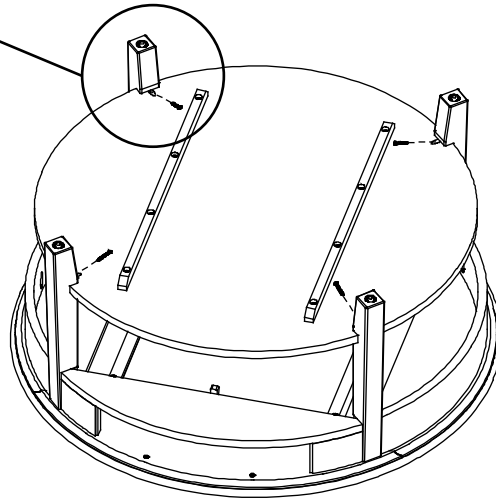

Fig. 7
7. Using the pocket holes as guides, secure the Shelf (C) to the Legs (B) with four #8 x 1-1/4" Pan Head Screws (I). See Figures 7 and 7a.